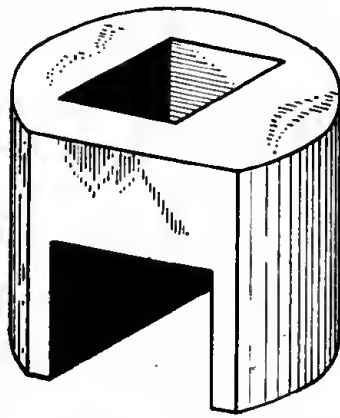

Figure 37. Oil-flange wrench.
(2) It is used to tighten and loosen hose-clamp connections. Its length and flexibility make it possible to tighten fittings that would otherwise be difficult to reach. The cable is used as an indicator of the torque applied. As a fitting is tightened, the cable strands will spread apart when the applied torque is 20 to 25 inch-pounds. This is the proper amount of torque for hose-clamp connections. (This value may be obtained approximately by tightening the clamp-screw finger tight, then turning it one to one and one-half turns for nonself-sealing hose and two to two and one-half turns for aromatic-resistant, self-sealing hose.)
p. OIL-FLANGE WRENCH. The oil-flange wrench has a square hole for an extension bar and two prongs which fit the oil-flange nuts. It is used to remove and install an oil flange. (See fig. 37.)